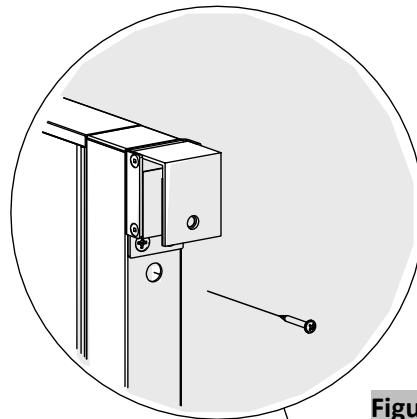

Figure 3
3. Securely fasten the sliding door post on side of the panel, (Figure 3).